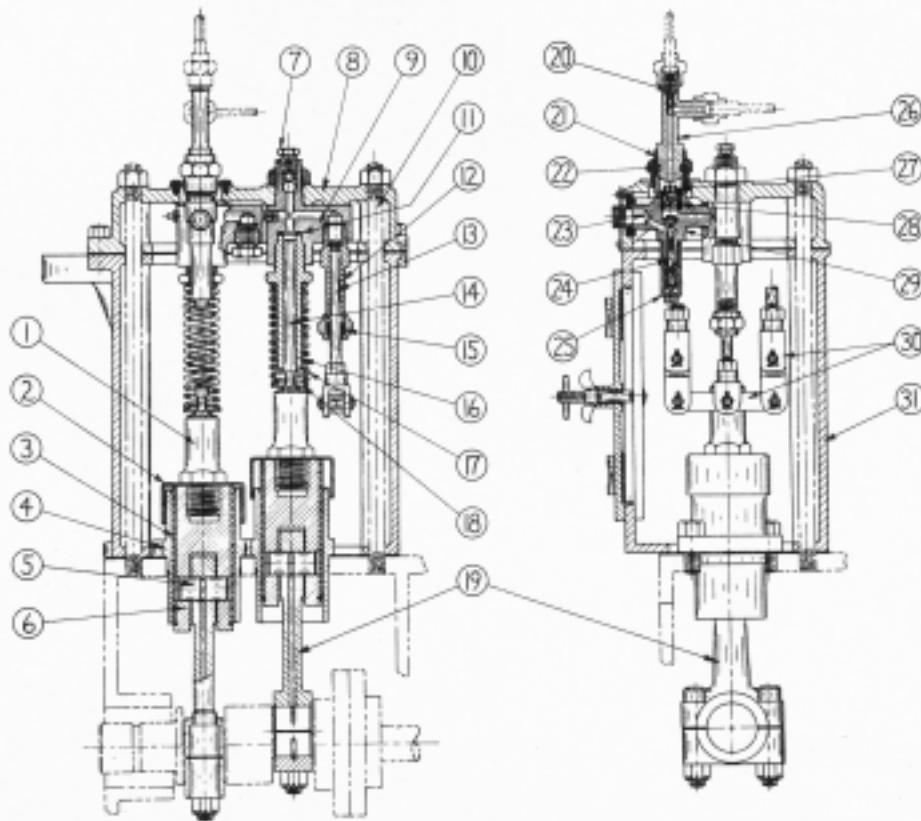

FIG. O-1
The high pressure fuel pump is located on top of the centerframe on the operating side. The pump consists of one or two plungers actuated by cross heads and connecting rods from a crankshaft which is bolted to the end of the camshaft. One or two plungers are used depending on the engine bore and the number of cylinders. All engines with 6-1/2" bore have high pressure pumps equipped with one pump plunger which is also used on all 3-Cyl. models with bores up to and including 9 inches. 4 and 6-Cyl. models of engines with 7-1/2" or larger bores are equipped with two plunger pumps such as shown on Fig. O-1. The construction of the high pressure pumps with one and two plungers are however similar and the following description applies to either model. Both single and two plunger high pressure pump units are equipped with one hand operated plunger which is used for priming the fuel system and for building up fuel pressure when the spray valves are being timed or tested.
Referring to Fig. O-1 cast iron guides (4) are located in holes in the centerframe and are secured by cap screws. Cross heads (6) work in these guides and are actuated by the crankshaft and connecting rods (19). The bronze connecting rods have a clearance of .0015" to .003" on their crankpins and a side play of .005" to .009". The cross head pin bearing is formed directly in the upper end of the connecting rod and the pins have a clearance of .001" to .002" in the cross heads and in the connecting rods. Each cross head has a replaceable bronze sleeve (3), held in place by a shoulder on the lower end of the cross head and by oil guard (2) and plug (1) at the upper end. The clearance between the sleeve and the cross head guide is .002" to .004" and if it should become excessive new sleeves should be installed. Lubrication is by spray from the cranks.